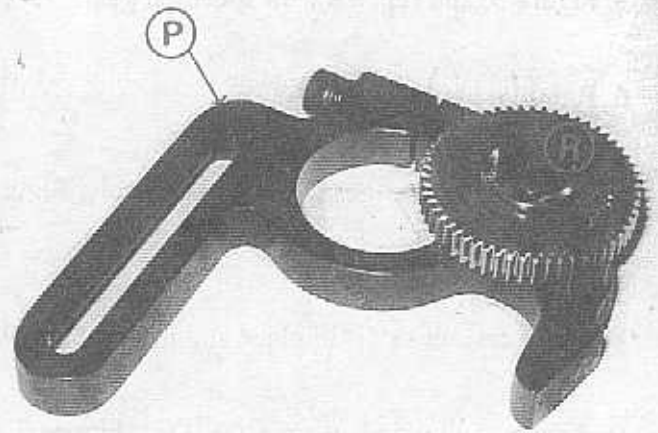
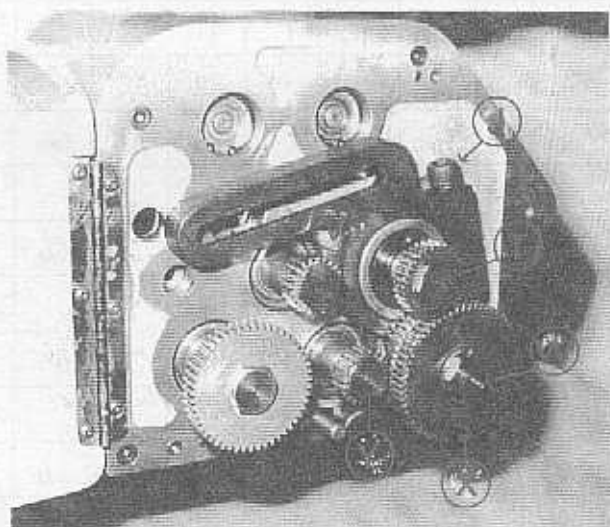

Figure 8 - Change Gear Bracket
Figure 9 - Mounting Change Gear Bracket
2. On metric side of change gear bracket "P" Figure 8 mount "Idler Gear" "R". Do not tighten bolt "S" fully.
4. Mount change gear bracket assembly, Figure 8, on pivot post "V", Figure 9, Do not tighten bracket bolt "U" fully.
6. Mount "First Gear on Screw" "T", Figure 9.